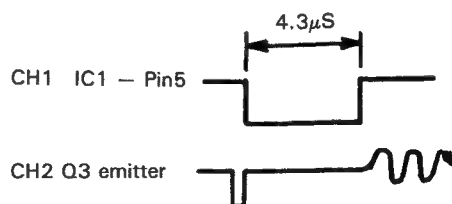

Fig. 7
1. Play the test disc, and adjust VR1 so that the pulse width of the signal output from IC1 pin 5 becomes $4.3 \mu\text{sec} \pm 0.1 \mu\text{sec}$. At this time, check that the H-Sync of the Q3 emitter is sliced. Fine adjust VR1 so that the burst level of the input video signal is not lost. (Fig. 7)